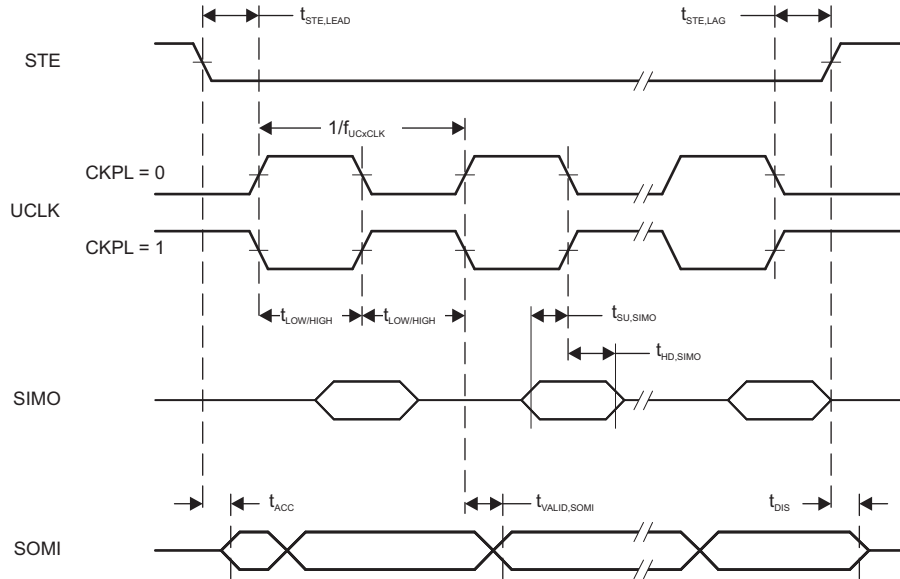
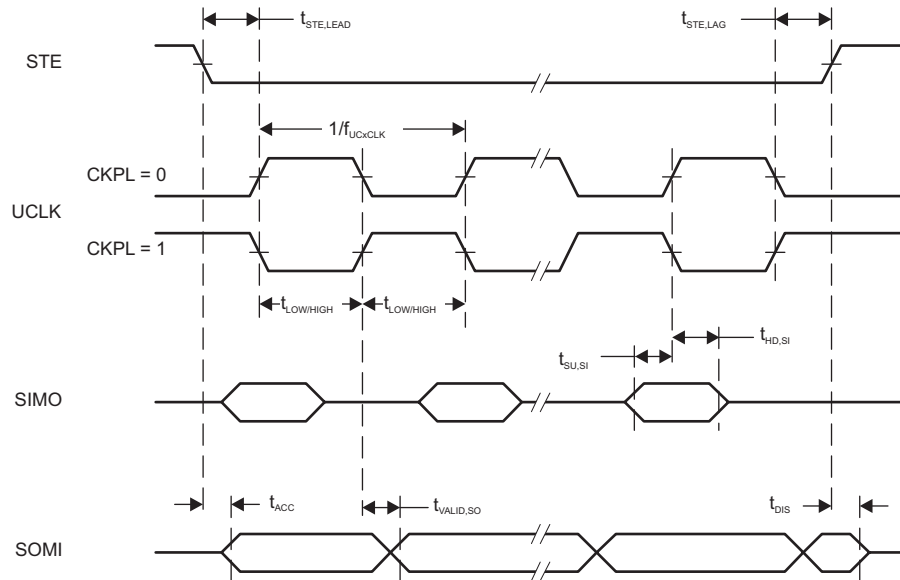

Figure 5-13. SPI Slave Mode, CKPH = 0
Figure 5-14. SPI Slave Mode, CKPH = 1
(2) Specifies the time to drive the next valid data to the SOMI output after the output changing UCLK clock edge. See the timing diagrams in Figure 5-13 and Figure 5-14.
(3) Specifies how long data on the SOMI output is valid after the output changing UCLK clock edge. See the timing diagrams in Figure 5-13 and Figure 5-14.